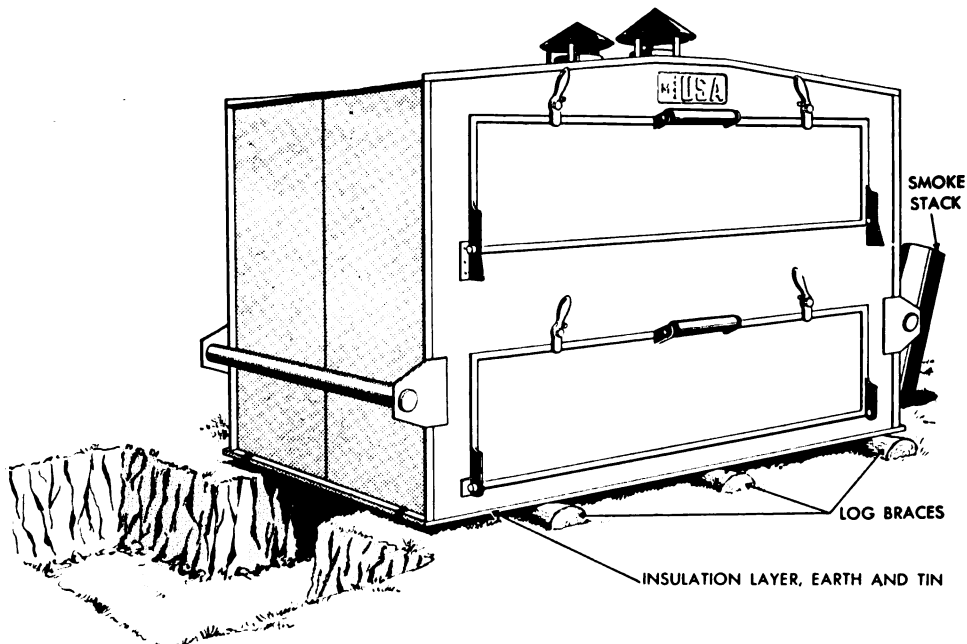

Figure 71. Top section of oven, bake, field, M1942, used with wood fire.
d. Another procedure for using a wood fire is as follows (see fig. 71):
(1) Dig a firing trench about 8 feet long,  $3\frac{1}{2}$  feet wide, and 20 inches deep. Extend the cut at the firing end to make a convenient firing pit. At one end of the firing pit, dig a hole and insert a drain bucket.
(2) Improvise a trench cover as insulation for the oven bottom. Make the trench cover in the form of a "sandwich" with a layer of mud between two metal sheets. The metal sheets may be con-